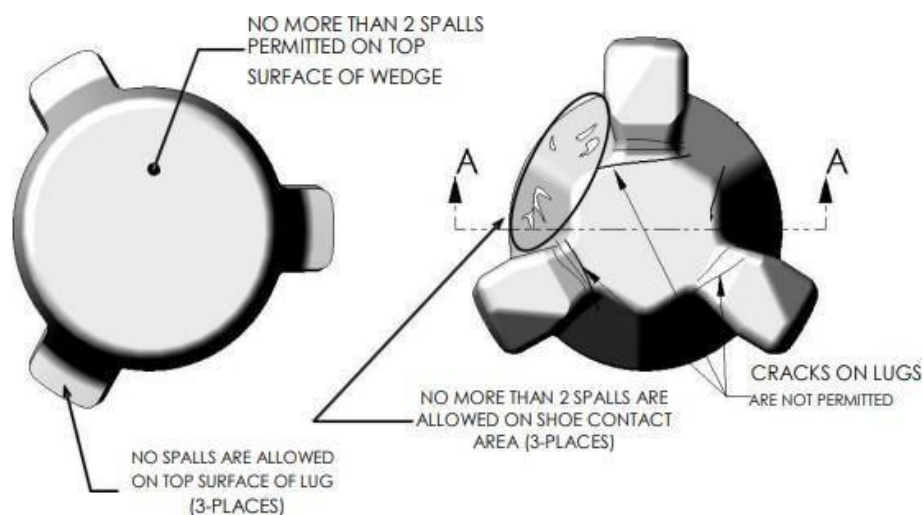

Figure No. 01
- No severe Cracking or spalling of the carburized case on the friction or the top of the wedge. Spall greater then (12.7mm x 12.7mm) anywhere of the wedge should be scrapped. Wedges that have more than two spalls on the shoe contact area must be scrapped. Wedges having spall on the top surface of lug must be scrapped. Wedges having more than two spall on the top surface of wedges must be scrapped. Please see figure no. 01